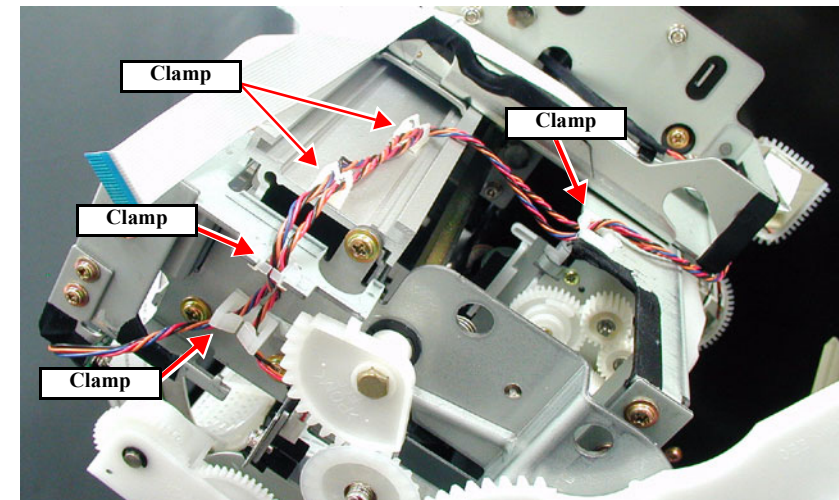

Figure 4-45. Releasing the HEAD_SLIDE Sensor ASSY Harness
6. Release the harness for the HEAD_SLIDE Sensor ASSY from the five cable clamps on the Maintenance ASSY and CR Rail ASSY. (See *Figure 4-45*)